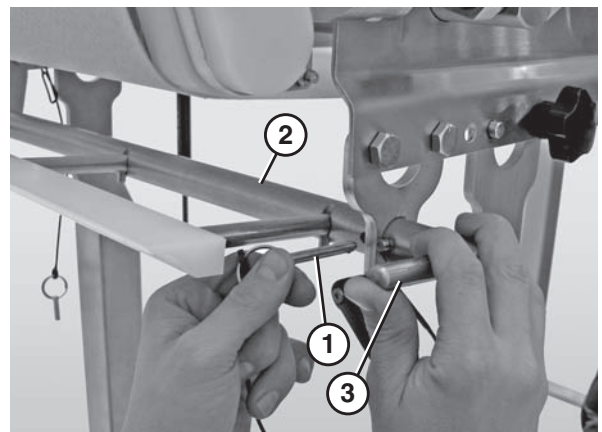

Figure 30
6. Insert the pin (Figure 30, item 1) to lock the scraper bar in place (Figure 30, item 2).
- Adjust the scraper to the desired position using the scraper bar handle (Figure 30, item 3).